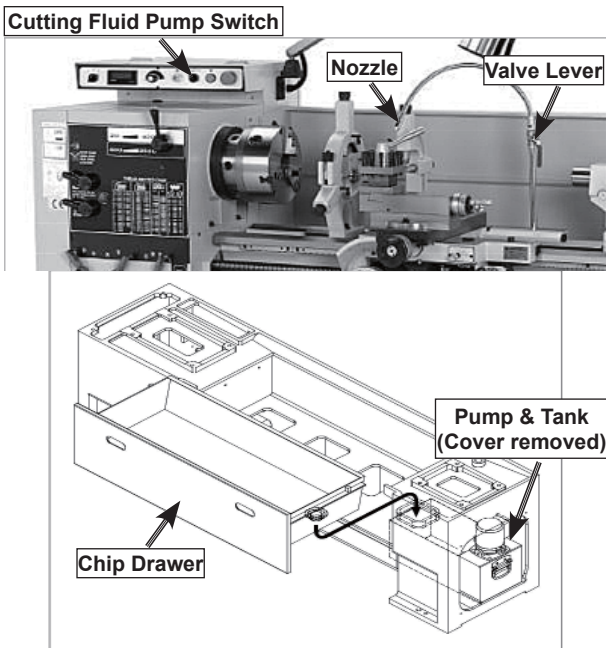
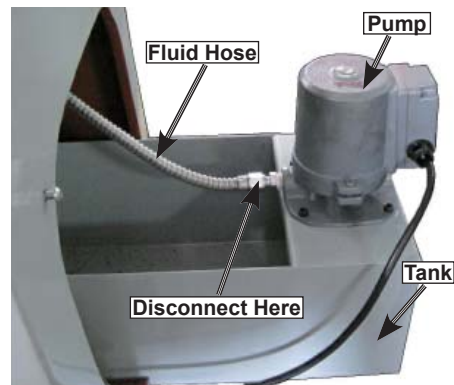

Figure 84. Cutting fluid system components and locations.
Figure 85. Cutting fluid pump and tank.
The cutting fluid system consists of a fluid tank, pump, and flexible nozzle. The pump pulls fluid from the tank and sends it to the valve, which controls the flow of cutting fluid to the work area. When the valve is opened or closed, the fluid comes out of the nozzle and drains through the chip drawer and into the catch tray and then into the tank where it is picked up again by the pump. Figure 84 shows many of these components and their locations.
2. Remove the vented cover and slide the tank out, as shown in Figure 85.
5. Remove the vented cover shown in Figure 84 and slide the tank half way out of the base, as shown in Figure 85.
If necessary, disconnect the fluid hose from the pump, where shown in Figure 85.